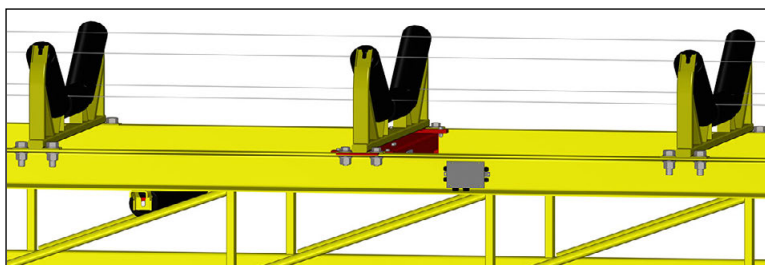

Figure 2-5. Run Strings To Same Plane
9. Run strings on the conveyor (three before the scale and three past the scale) and shim the idlers to the same plane. See Figure 2-5 on page 9.